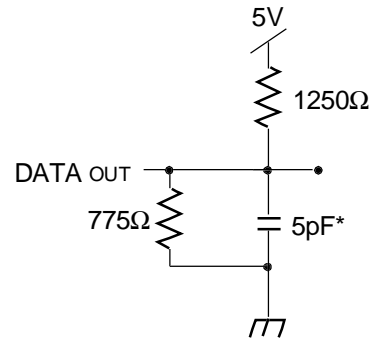

Figure 2. Output Test Load
1. Transition is measured  $\pm 500\text{mV}$  from Low or High-impedance voltage Output Test Load (Figure 2).
- Transition is measured  $\pm 500\text{mV}$  from Low or High-impedance voltage with Output Test Load (Figure 2). This parameter is guaranteed by device characterization but is not production tested.